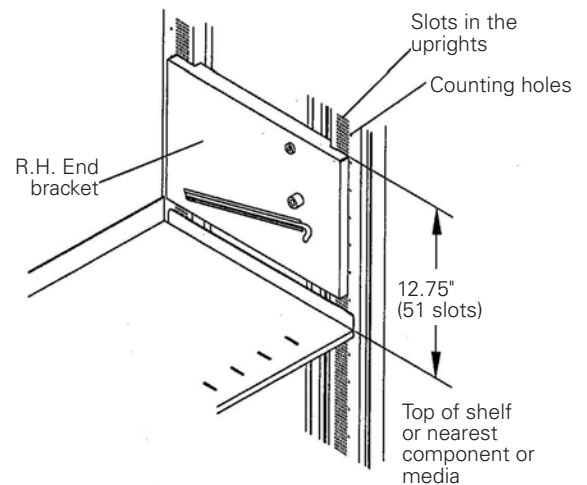

Figure 1
1. Locate the slots in the uprights for mounting the two end brackets (see Figure 1). **Make sure all the slots are at the same level.** Use the counting holes in the uprights as a guide when counting slots for spacing. **Note: all the slots are 1/4" apart; the counting holes are 2" apart.**